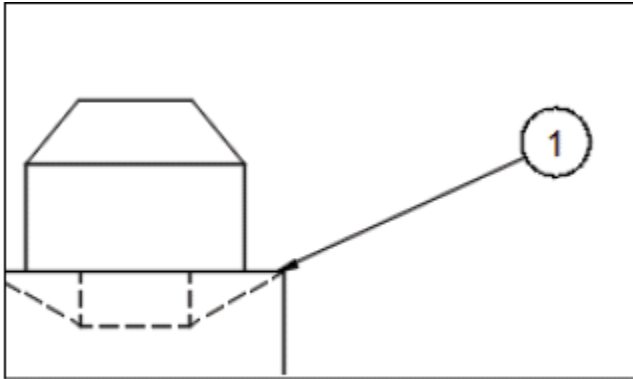
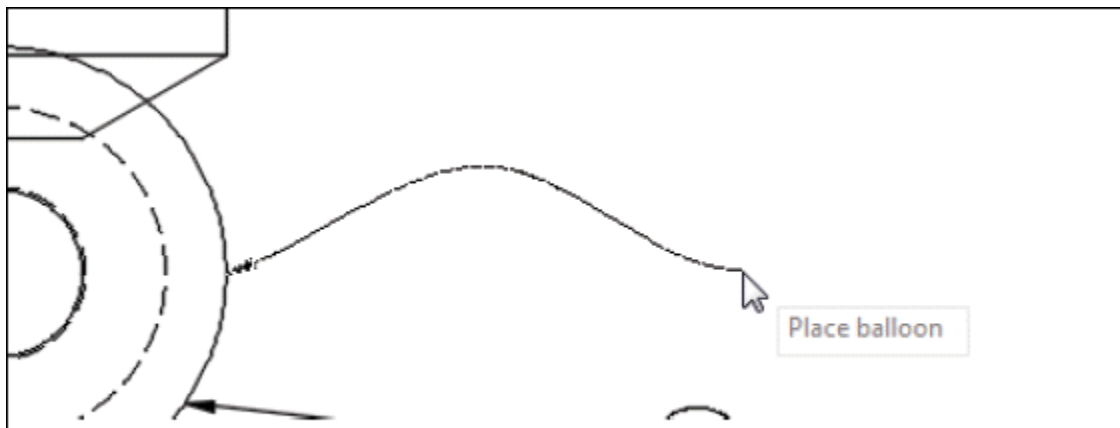

Figure-113. Placing balloon with Standard option
Figure-114. Placing balloon with Patent option
- Click at desired location to place the balloon; refer to Figure-113 and Figure-114.